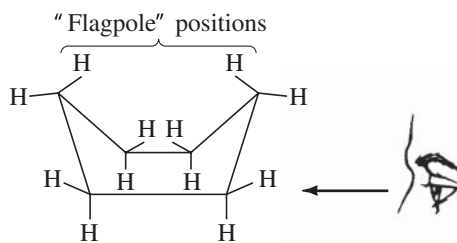

Figure 22.5
10. Construct *trans*-1,2-dimethylcyclohexane. By means of ring flips, examine the model with the two $-\text{CH}_3$ groups axial and the two $-\text{CH}_3$ groups equatorial (e,e = equatorial, equatorial; a,a = axial, axial). Which is the more stable conformation? Explain your answer (10).
12. Construct *cis*-1,3-dimethylcyclohexane by placing both $-\text{CH}_3$ groups in the axial positions. Do ring flips and examine the two chair conformations. Which is the more stable conformation? Explain your answer (12).
14. Construct *trans*-1,4-dimethylcyclohexane by placing both $-\text{CH}_3$ groups axial. Do ring flips and examine the two chair conformations. Which is the more stable conformation? Explain your answer (14).
16. Before we leave the cyclohexane ring system, there are some additional ring conformations we can examine. As we move from one cyclohexane chair conformation to another, the *boat* is a transitional conformation between them (Figure 22.5). Examine a model of the boat conformation by viewing along a carbon–carbon bond, as shown by
Figure 22.5. In the space provided on the Report Sheet (16a), draw the Newman projection for this view and compare with the Newman projection of 5d. By examining the models and comparing the Newman projections, explain which conformation, the chair or the boat, is more stable (16b). Replace the “flagpole” hydrogens by $-\text{CH}_3$ groups. What happens when this is done (16c)? The steric strain can be relieved by twisting the ring and separating the two bulky groups. What results is a *twist boat*.